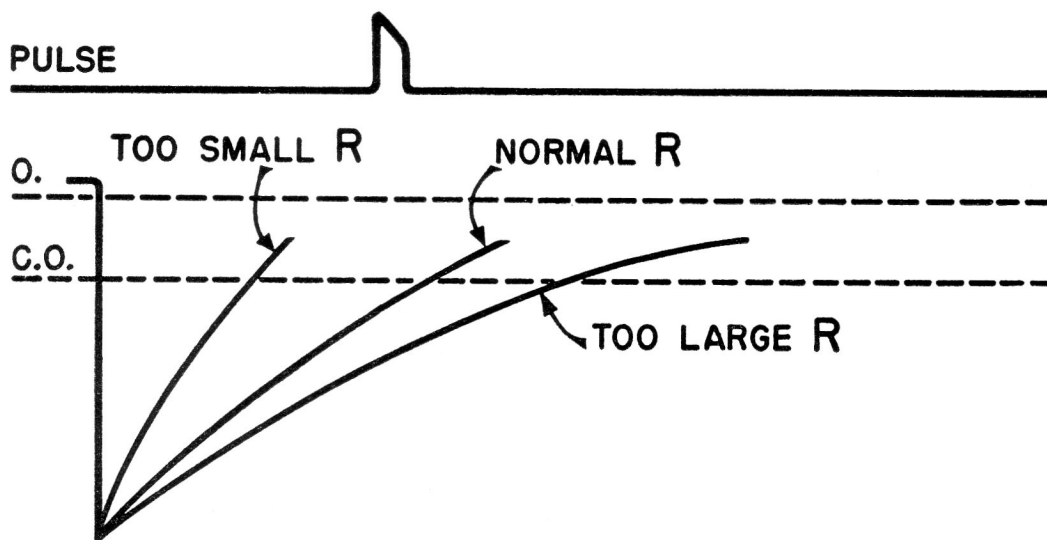

Figure 7
Figure 7 shows that with the synchronizing pulse as shown, no synchronized action will occur if item 30 is made too large. Similarly, synchronized action will take place on every other cycle if item 30 is made sufficiently small. This explains why, with too little "Hold", erratic operation takes place, and with too much "Hold" a double image is sometimes observed.